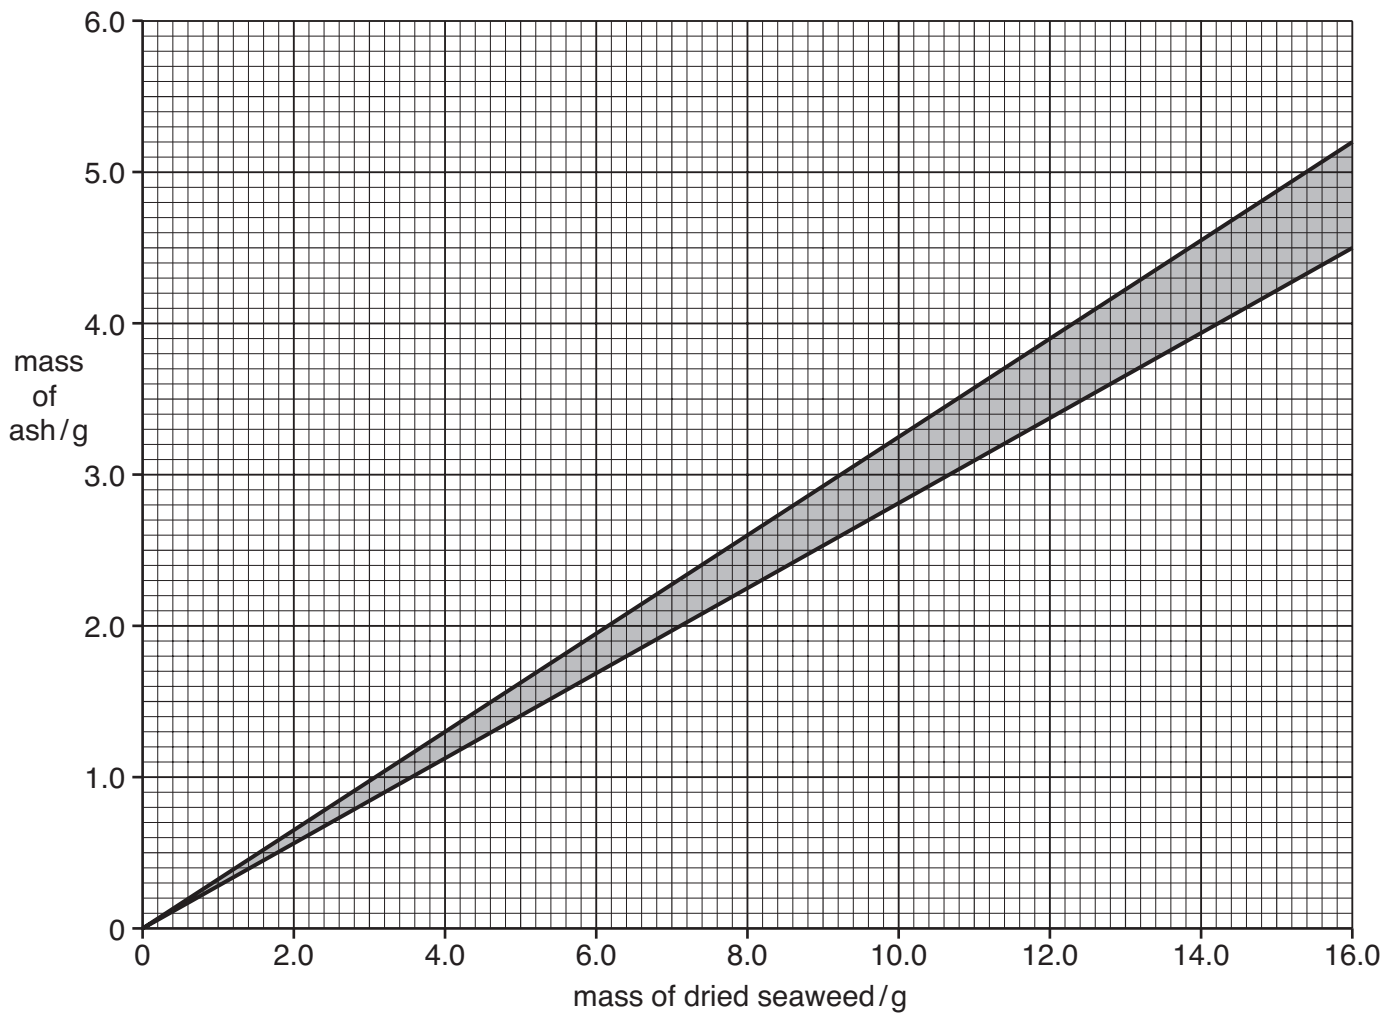

Fig. 1.4
- (iv) The ash is then cooled and its mass recorded in Table 1.1. One way of telling if combustion is complete is to use the graph, Fig. 1.4. For a result to be acceptable, the mass of the ash needs to lie within the shaded area of the graph.
Use the graph, Fig. 1.4, to decide which of the samples **A**, **B** or **C** has given unacceptable results.